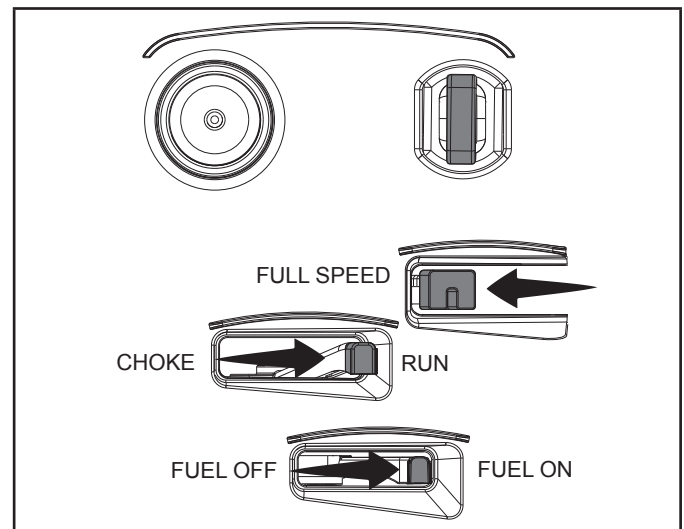

Figure 9
2. To start a warm engine: (Fig. 9).